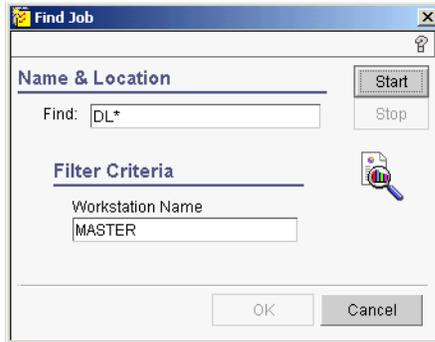

Figure D-8 Find Job
6. Click the ... button. The Find Job window is displayed, as shown in Figure D-8 on page 477.